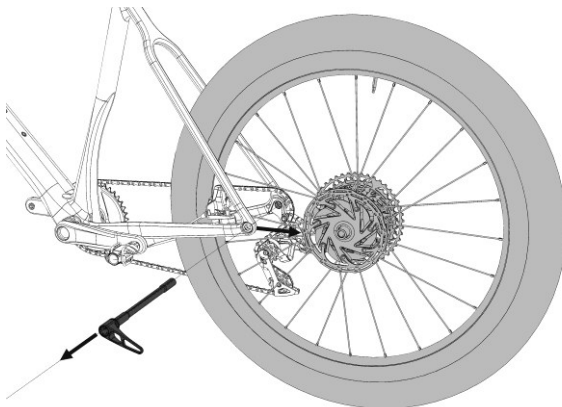

Figure 7: Remove rear wheel from bicycle.
1. If fitted, remove the old rear wheel. Make sure the chain is on the smallest cog. If present on your bike, use the switch on the rear derailleur by setting the switch to Off. Then, push the rear derailleur backwards and carefully remove the wheel from the bicycle, see Figure 7. Typically, this can be done without tools or by using an Allen wrench, depending on your bike. Do not push your brake levers once no wheel is fitted.